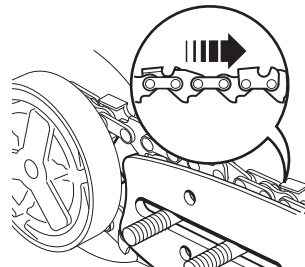

Fig. 8
- > Spread the saw chain (3) over the sprocket (22) behind the clutch (21) and fit around the guide bar (4) with the cutting edges of the chain pointing in the rotational direction (Fig. 8).